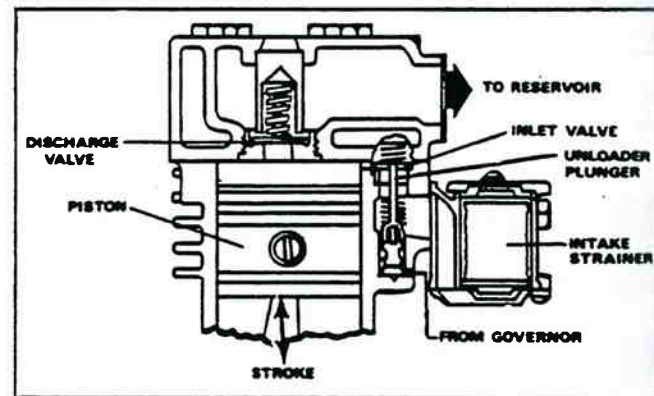

Figure 4-9. Unloading.
C. INLET VALVES HELD OFF THEIR SEATS: Air is merely pumped back and forth between the two cylinders (figure 4-9). When air is used from the reservoir and the pressure drops to low pressure setting of the governor, the governor closes and in doing so exhausts the air from beneath the unloader pistons. The unloader saddle spring forces the saddle, pistons and plungers down and the inlet valves return to their seats. Compression is then resumed.